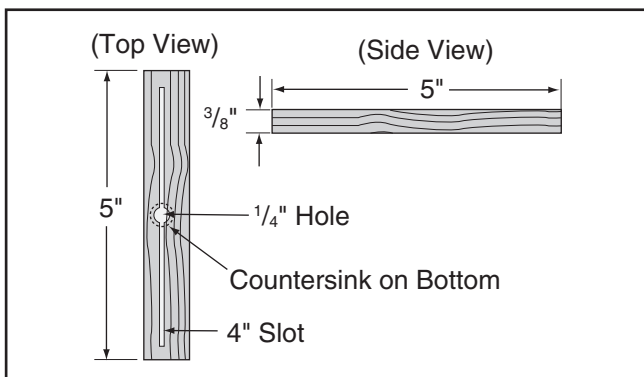

Figure 73. Miter bar pattern.
- Cut a miter bar that will fit in the table miter slot approximately 5" long, as shown in **Figure 73**.